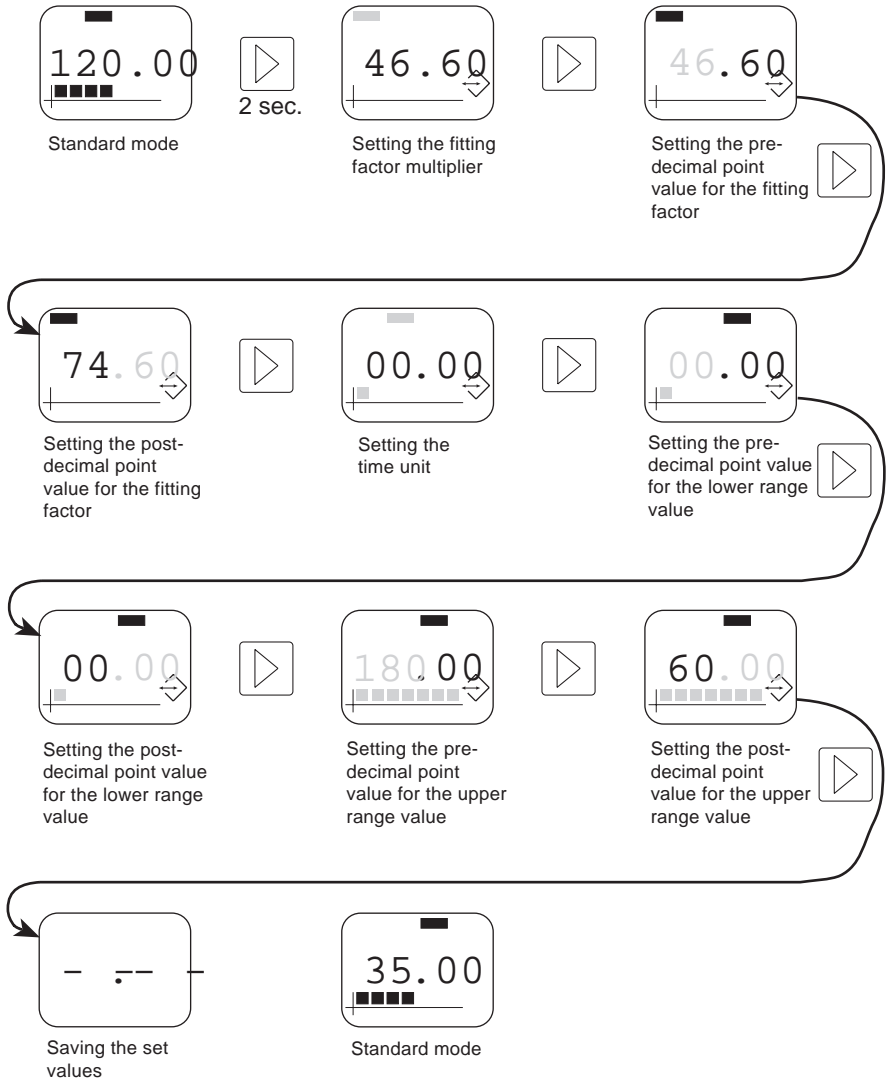

Fig. 4.4 Illustration of the various programming items
4.3.3 Programming Mode (see Fig. 4.4)
Fitting Factor-K (see Fig. 4.4)